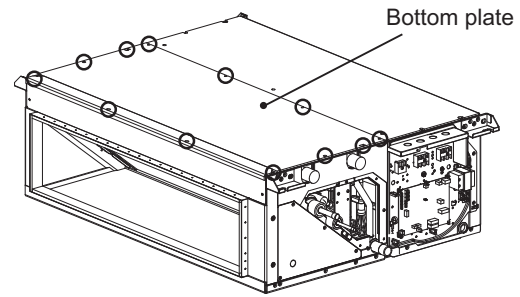

Fig.1
- (1) Remove the heat exchanger cover (A) with procedure [1]-3-1.
- (2) Remove the bottom plate which is air outlet side. (fixing screws: twelve) (Fig.1)